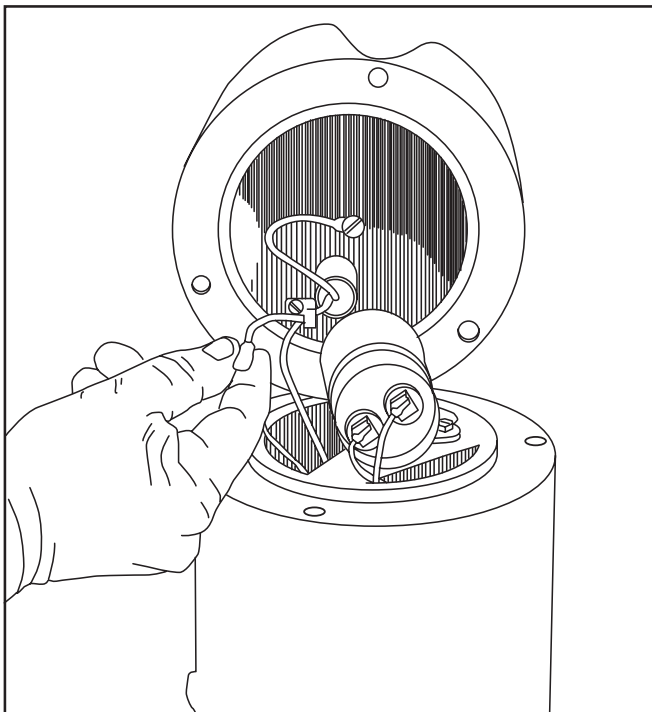

Fig. 10
3. Lift housing and disconnect motor leads and capacitor wires. Fig. 10